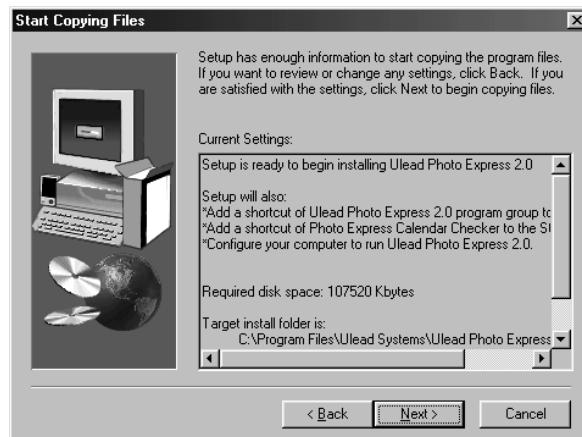
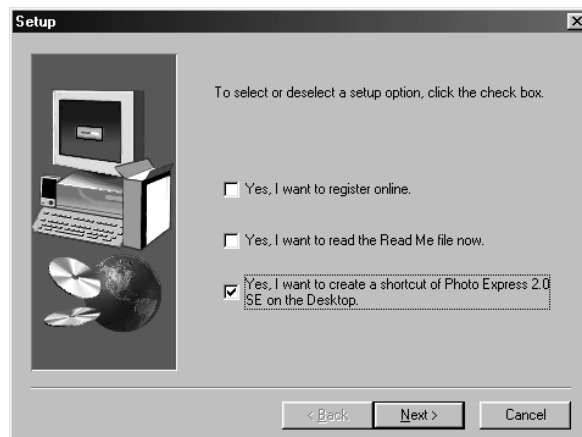

Figure 21: Installing PhotoExpress 2.0
Figure 22: Installing PhotoExpress 2.0
11. Click on 'Next' (Figure 21). PhotoExpress will now be installed. Figure 22 will pop up after the installation is completed.
12. Select the option 'Yes, I want... ..on the Desktop' only (Figure 22).
13. Click on 'Next' to continue (Figure 22).